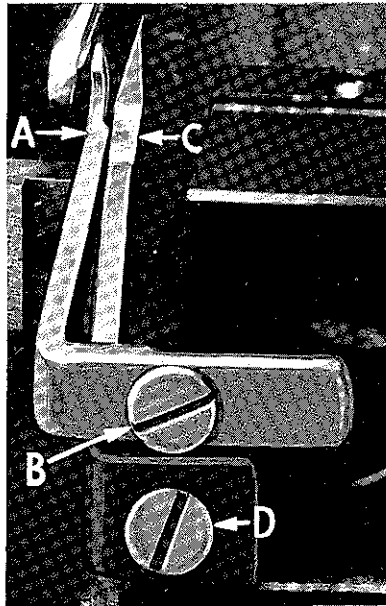

Fig. 5
Set rear needle guard (A, Fig. 5) as high as possible, without interfering with either lower looper or movement of lower knife holder, but still in position to deflect needle forward $-.002 - .004$ inch. Screw (B) is used to set rear needle guard. Make sure there is no interference between rear needle guard and lower looper.
Assemble front needle guard (C, Fig. 5). When lower looper is springing needle off back guard, set front needle guard as close as possible to needle without touching. Screw (D) is used to adjust and set front needle guard. After this setting make sure there is no interference between needle guards and differential feed dogs.